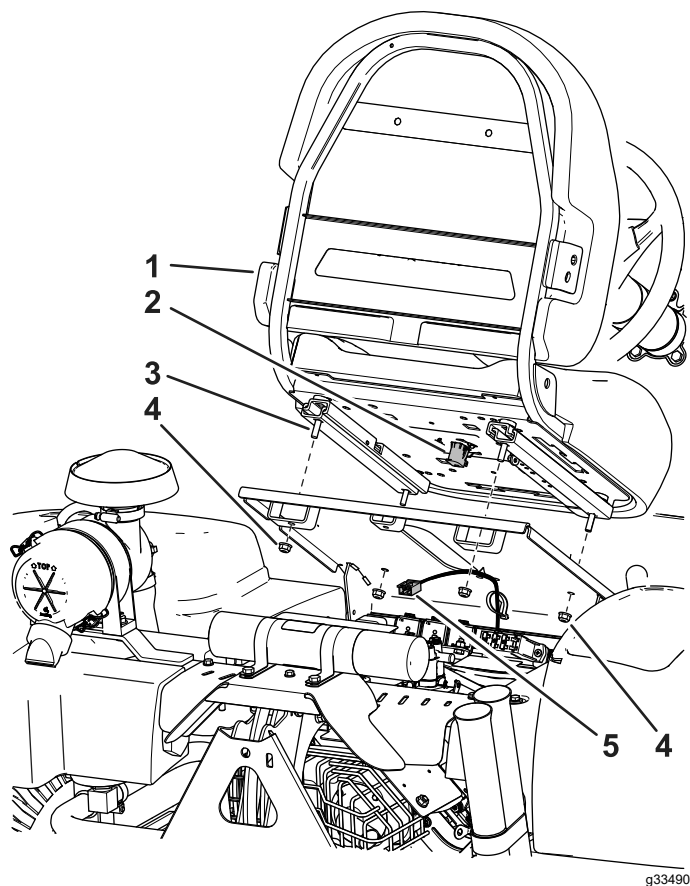

Figure 4
3. Secure the seat to the seat base with the 4 previously removed nuts; refer to Figure 4.
4. Locate the machine wire harness and connect it to the seat switch (Figure 4).